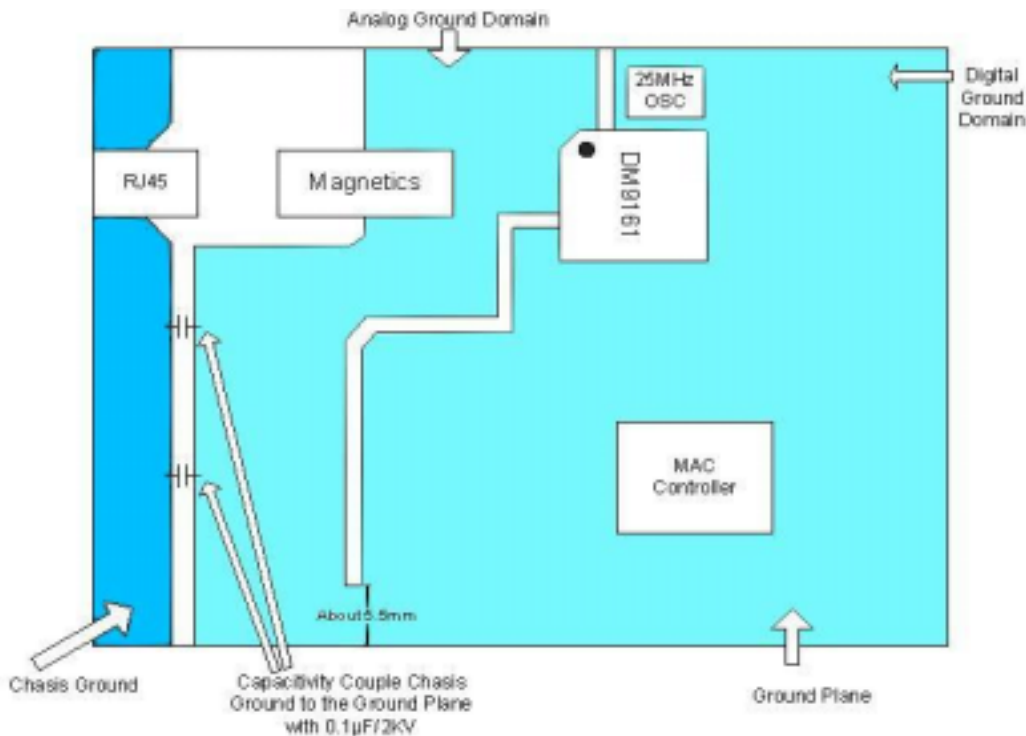
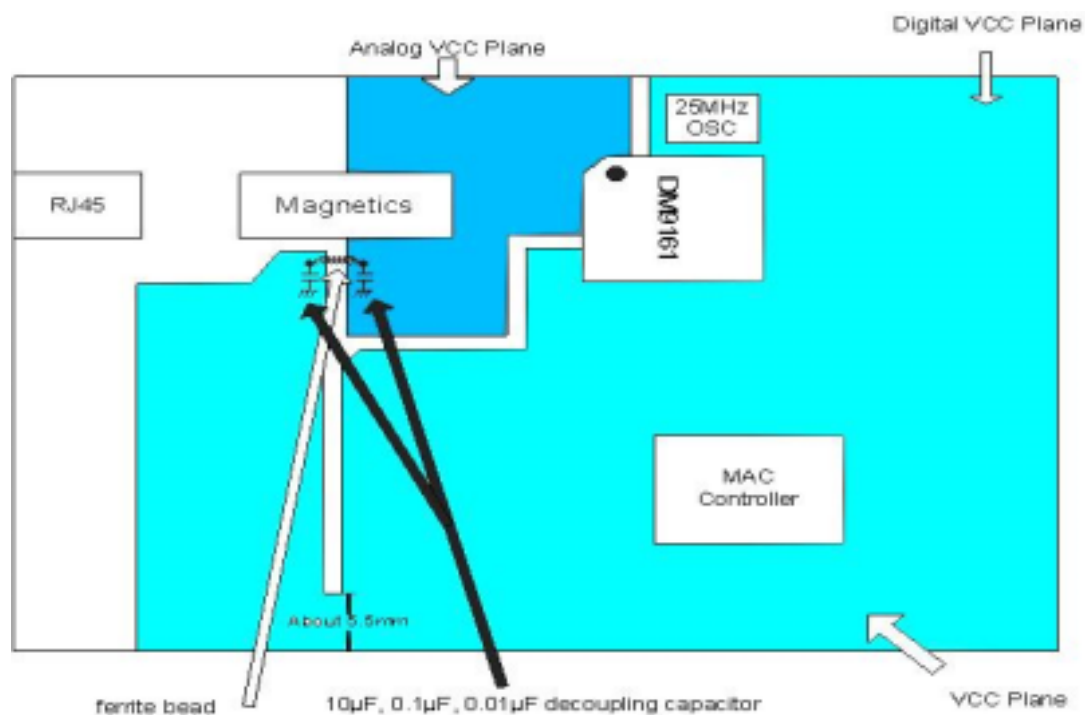

Figure 3-1
Figure 4
- The network interface (see Figure 3-1 and Figure 4) does not route any digital signal between the DM9161 RX \pm and TX \pm pairs to the RJ-45. Keep the two pairs away from all the other active signals and the chassis ground.
- Ground plane need separate analog ground domain and digital ground domain, the analog ground domain connected line is far away the AGND pins of DM9161 (see Figure 3-1).
- The power planes should be approximately illustrated in Figure 4. The ferrite bead used should have an impedance 100Ω at 100MHz and 200mA above. A suitable bead is the Panasonic surface mount bead, part number EXCCL4532U or an equivalent. A $10\mu\text{F}$, $0.1\mu\text{F}$ and $0.01\mu\text{F}$ electrolytic bypass capacitors should be connected between VDD and GND at the device side of each of the ferrite bead.